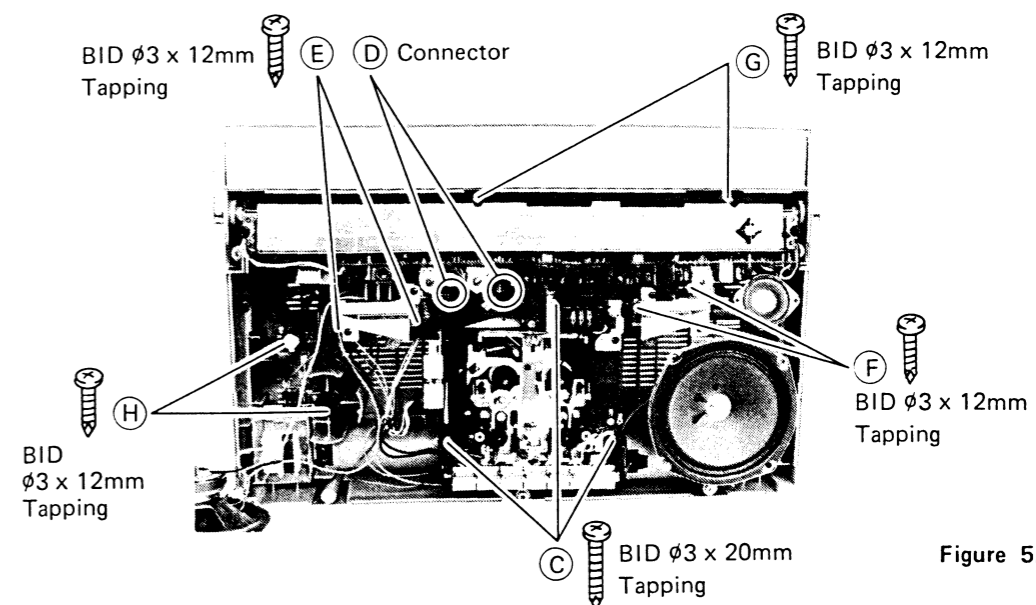

Figure 5.
1. Remove 3 screws ③. Figure 5.
2. Disconnect 2 leads wire ④. Figure 5.
1. Remove 4 screws ⑤ and ⑥. Figure 5.
1. Remove 2 tweeter speakers. Figure 5.
2. Remove 2 screws ⑦ and the hook of 4P jack (AUX, LINE OUT). Figure 5.
1. Remove 2 screws ⑧. Figure 5.